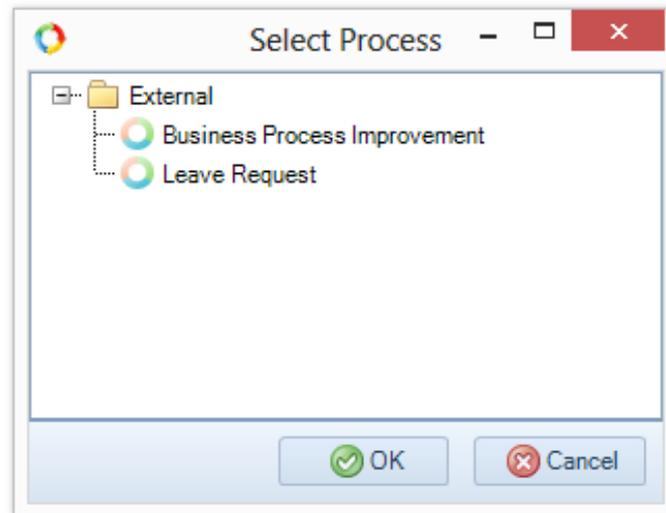

Fig. 183. Selecting the external sub-process
2. In **ELMA Designer**, in the left toolbar of the **Graphic Model** tab, find the **External Sub-Process** element. Place it in the process model. A window opens. In this window, you will see a list of available processes (Fig. 183). Select the required process and click **OK**.